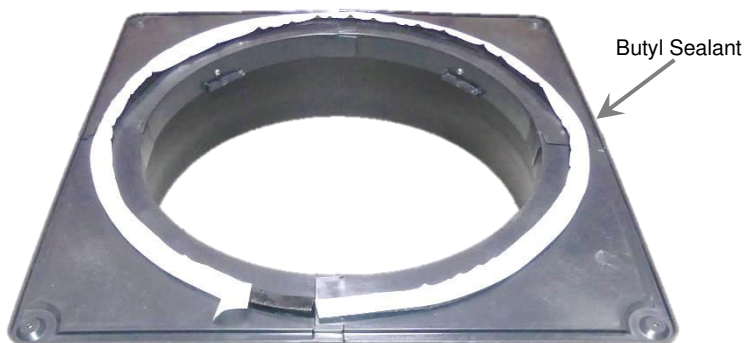

Figure 15
- 11.) With the white tape upward, apply 83" of thick butyl (3/4") around the bottom of the base flange, overlapping and kneading the ends of the butyl together (Fig. 15). Remove the white tape from the sealant rope and discard the tape.